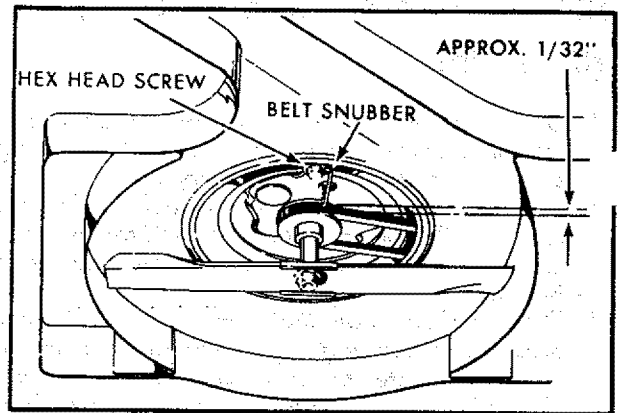

FIG. 23
4. Loosen hex head screw holding belt snubber in place and move belt snubber away from pulley (See Fig. 23).
7. Move belt snubber back in place, approximately 1/32" away from belt and tighten hex head screw (See Fig. 23).